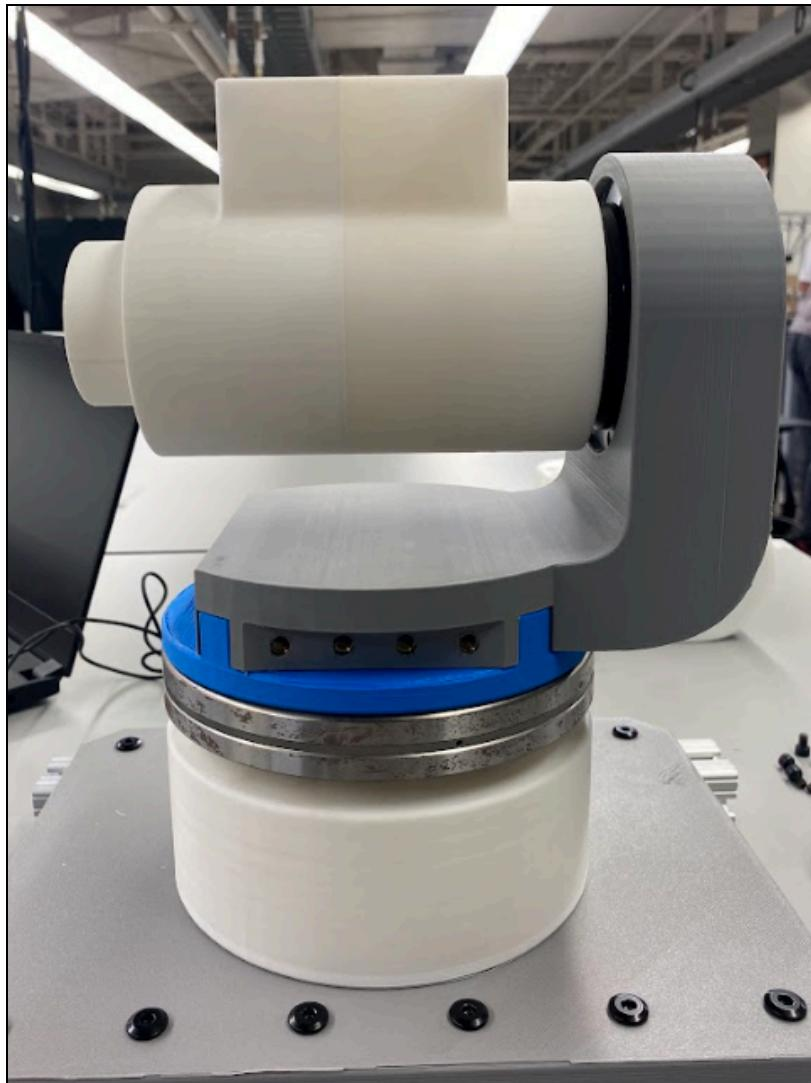

Figure 14: J2 Motor Holder to J1 Mushroom Cap
- Align the holes of the J2 Motor Holder to the holes of the J1 Mushroom Cap. There are four on each side. Refer to Figure 14.